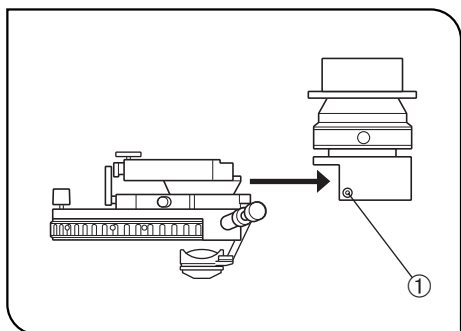

Fig. 94
Universal Condenser (U-UCD8)**(Figs. 94 & 95)****« Attaching onto the UCD Adapter »**
1. Using the Allen screwdriver, loosen the two setscrews ① on the IX-ADUCD UCD adapter. (Fig. 94)
3. Tighten the two setscrews ① using the Allen screwdriver. (Fig. 94)